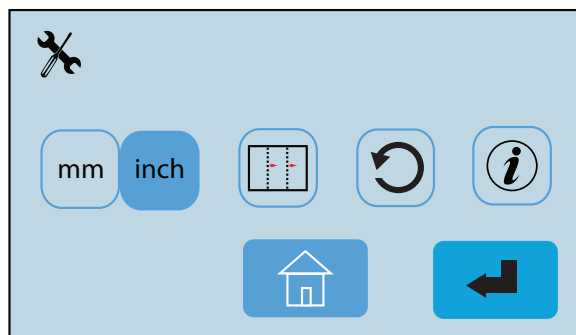
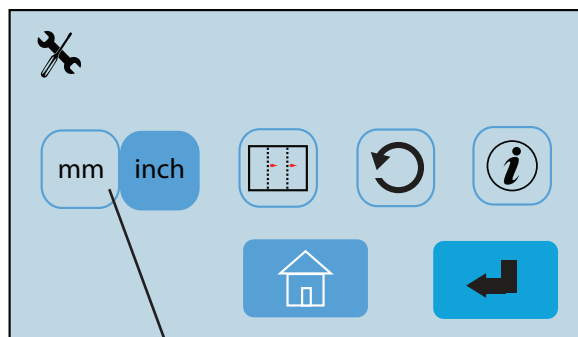

Fig. 23
Fig. 24
1. From the Operator Settings screen (Fig. 23) press the measurement setting icon  (Fig. 24) to change between settings. The icon highlighted in blue is the selected setting. By changing this setting the paper sizes will change from standard to metric or vice versa.